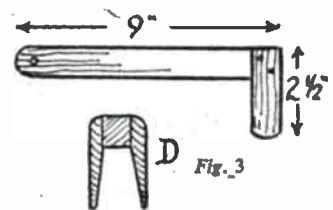

Fig. 3
fitted as far as the writer is aware, to the commercially made article, but as it allows the trousers to hang almost to the bottom, free from creases, it really is worth adding. It is shown separately in Fig. 3, and consists of a 1 in. wide strip of the board, cut to the length given, and has its rear end rounded off and bored to suit a 2 1/2 in. wire nail. To the fore end two 1 in. wide strips of fretwood, about 1/2 in. thick, are screwed, these being tapered on their inside faces, as in detail (D) to press over the trousers on the rail, as a clothes peg does to garments hung out to dry.
Now make the lid of the box. This should be marked out to the exact outline of the box, except along the front, where an 1/2 in. projection is allowed to facilitate the lifting of the lid (see Fig. 3). A pair of 1/2 in. brass hinges are fitted to the back edge of the lid, the lower flaps of the hinges being screwed